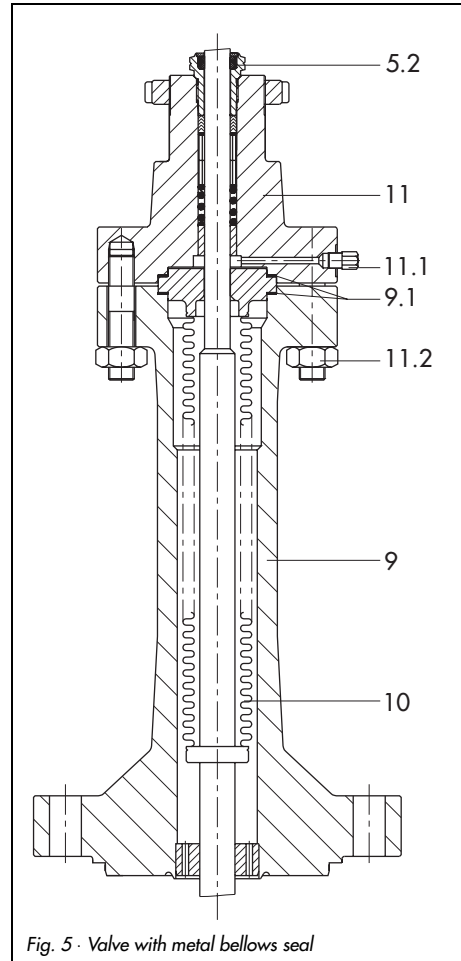

Fig. 5 · Valve with metal bellows seal
Versions with metal bellows seal (Fig. 5) include a test connection (11.1) located at the upper flange. This allows the tightness of the bellows to be checked.
Legend to Fig. 5
The metal bellows (10) can only be replaced as complete bellows seal together with the plug stem. To do this, proceed as described in section 5.1.2 (Fig. 5).